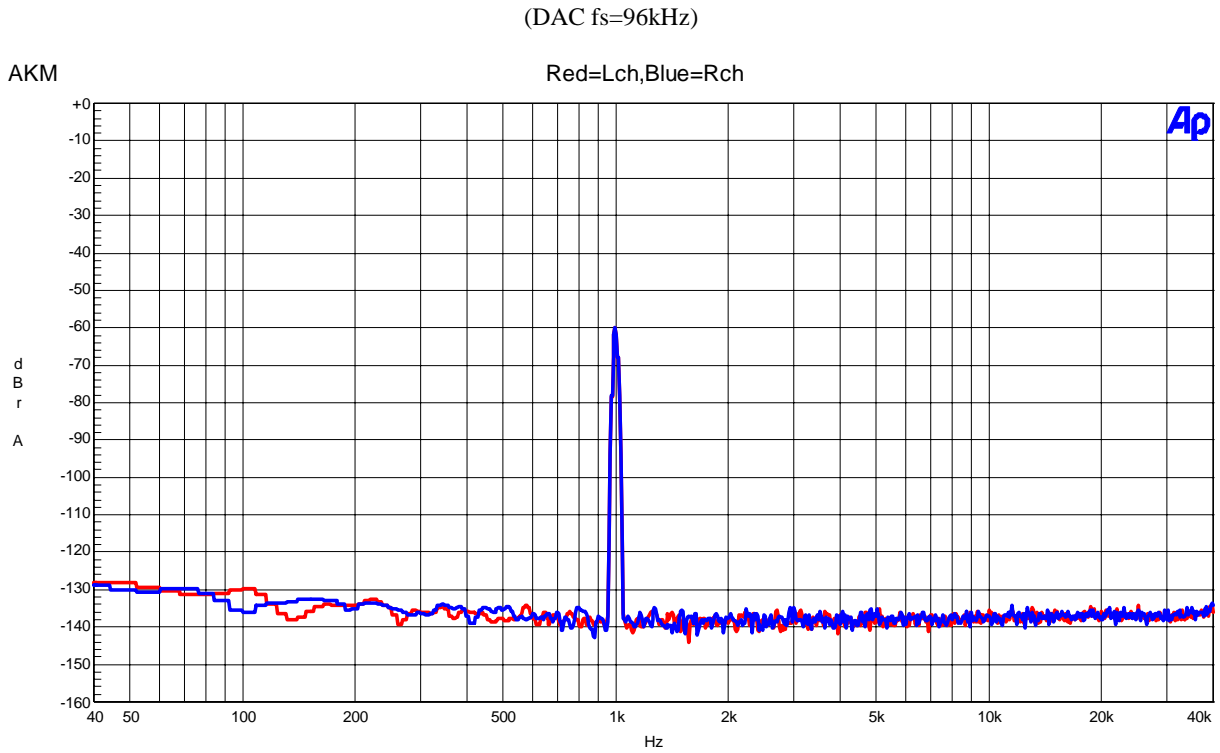

Figure 35. FFT(Input Frequency=1kHz, Input Level=-60dBFS)
- Figure 35. FFT (out-of-band noise)